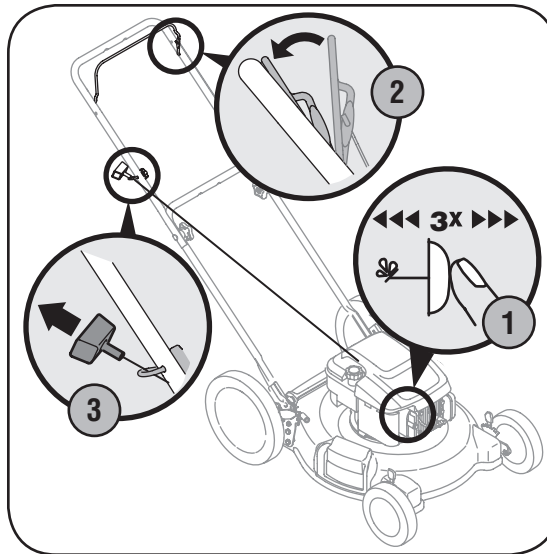

Figure 4-2: Starting the Briggs & Stratton engine.
1. If equipped, push primer three times. Wait about two seconds between each push. See Figure 4-2. In temperature around 55° F or below, prime five times. Do not prime to restart a warm engine.
2. Standing behind the mower, squeeze the blade control against upper handle. See Figure 4-2.
3. Holding these two handles together firmly, grasp recoil starter handle and pull rope out with a rapid, continuous, full arm stroke. See Figure 4-2. Keeping a firm grip on the starter handle, let the rope rewind slowly. Repeat until engine cranks. Let the rope rewind each time slowly.